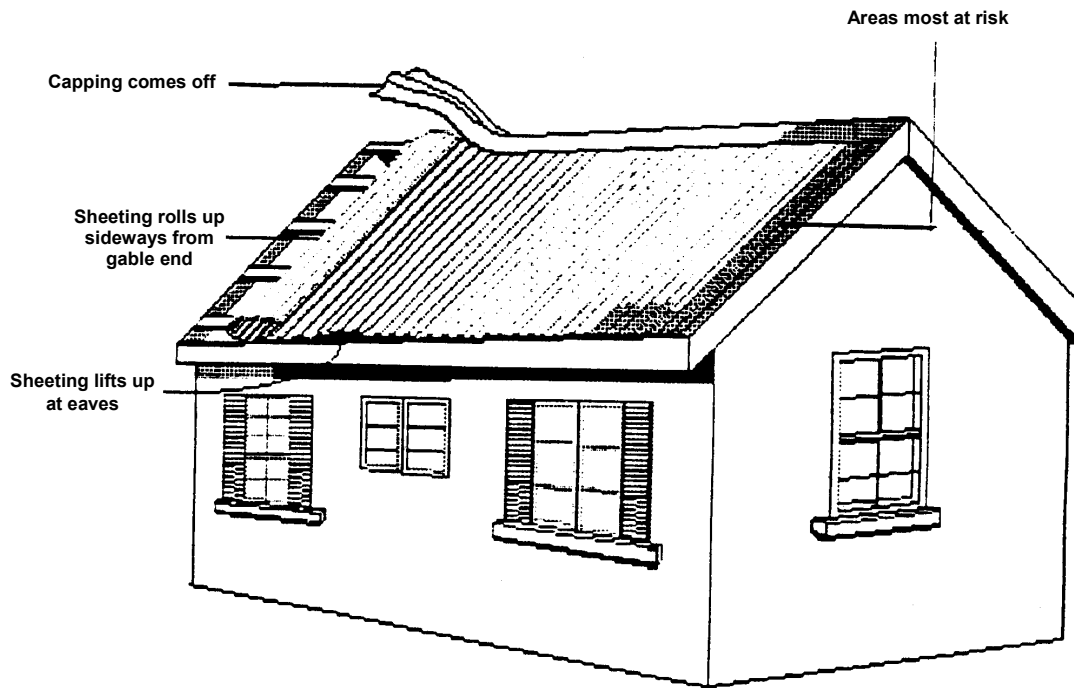

Figure 27 Roof areas most at risk to sheeting loss
2. The galvanized sheet and ridge cap should be made to overlap the barge board by about 2" to 2 1/2", so that they can be bent over the barge board and secured with 1" nails. This helps prevent the sheet from lifting at that point (Figure 27). Ridge capping must extend at least 4 inches (4") beyond the lower edge of the purlin/lath. Fascia boards must be installed, and whenever possible